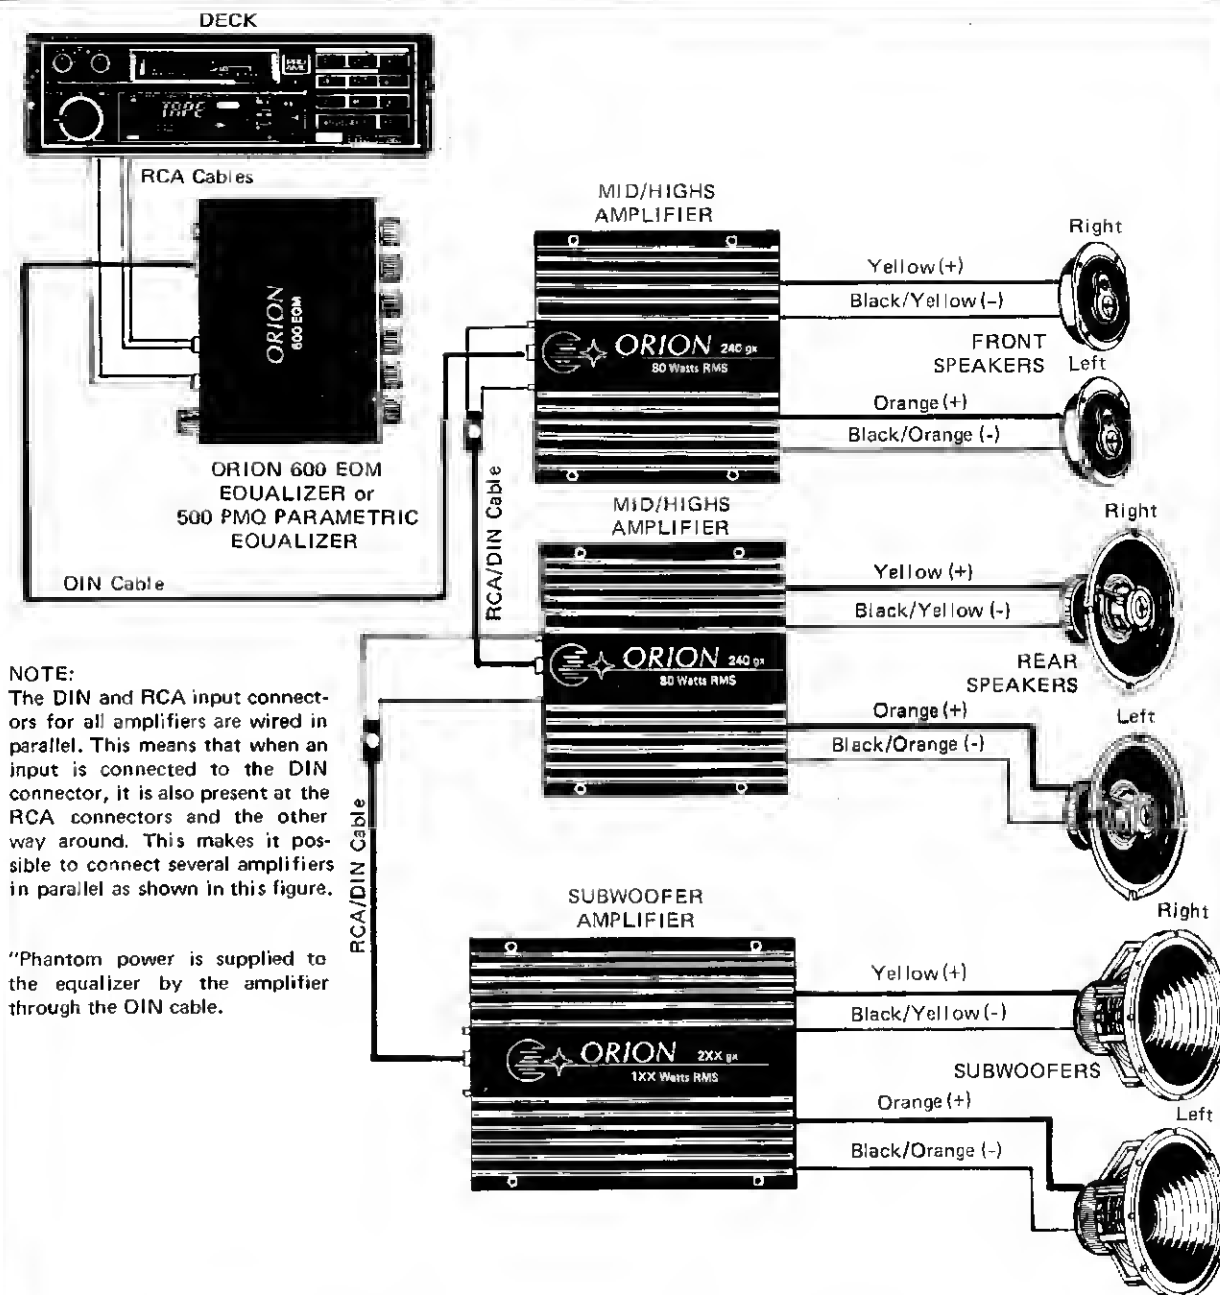

Figure 4. Typical Way of Adding Subwoofers to a System
(3) **Adding Subwoofers.** For added punch, you could add a couple of subwoofers to the system as shown in figure 4. This will give you the most coherent and natural sound. In this system, a pair of midrange/tweeter speakers are located in the front (usually in the top of the dash), and a midrange/tweeter speaker is located in each rear door or side panel. The subwoofers are installed in the rear. *This does not mean that the passengers seated in the rear will be overcome by the bass. Low frequency sound waves tend to wrap around the interior such that they are perceived as coming from all directions.*